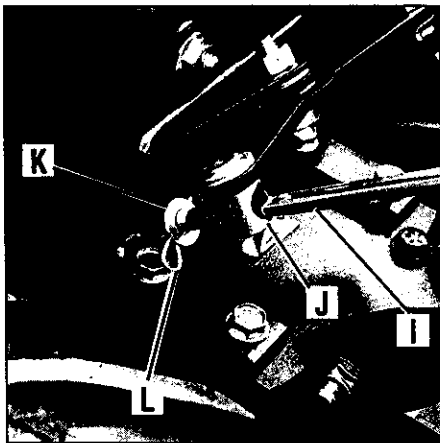

Figure 2-5: Install Reverse Clutch Lever.
2. Insert the end of the lever (I, Figure 2-5) through the hole in the pivot (J). Note that there are two small holes in the lower end of the lever.
3. Install a 5/16" flat washer (K) and secure it with a hairpin cotter (L) through the *bottom* hole in the lever.